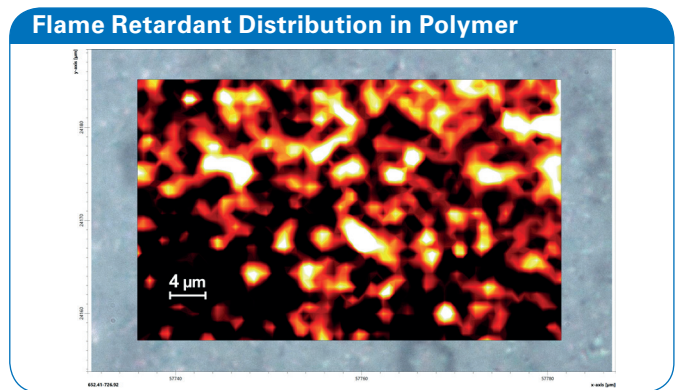

Figure 5: Chemical heatmap of melamine cyanurate (MC) in polyamide-6. The brighter the color, the more MC is incorporated into the matrix.
Flame retardants are key ingredients in polymers used for construction and engineering. They can make up to 30% of the polymer formulation in some materials! An incorrect distribution of such addivities can lead to critical comprizing effects of the base material. Figure 5 shows the chemical Raman image of the distribution of the halogen free flame retardant melamine cyanurate (MC) in a polyamide-6 matrix. The homogeneity and size of particulates is easily evaluated.